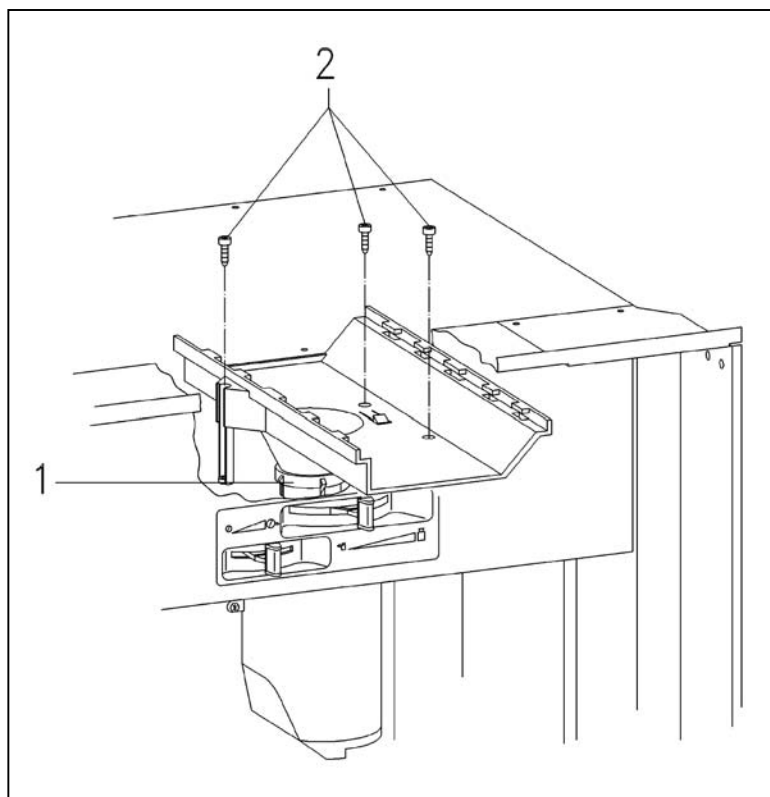

Fig. 5-43: Beans Container Guide (1) carrier (2) retaining screws
5. Remove the guide retaining screws (Figure 5-43, Item 2).
6. Remove the guide and carrier, (Figure 5-43, Item 1).